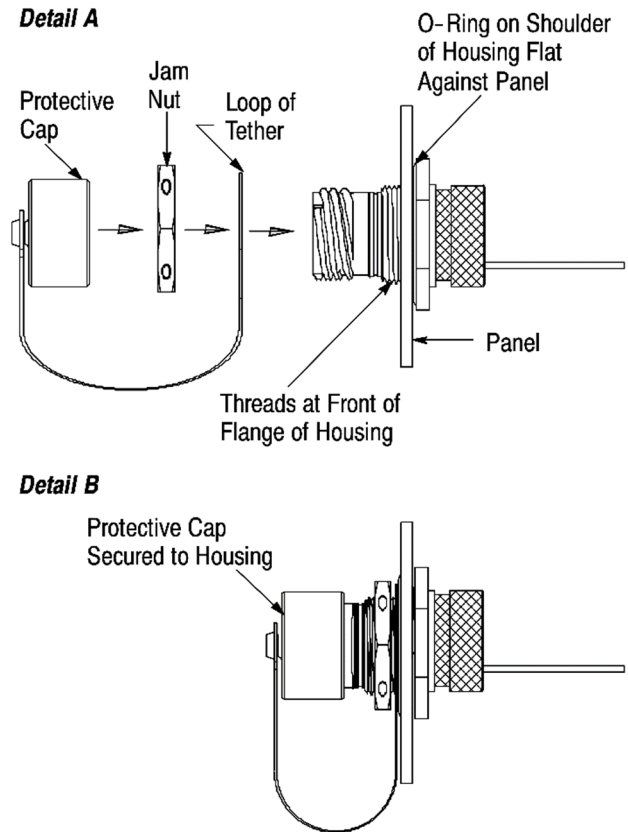

Figure 12
2. Make sure that the flange O-ring is installed in the groove of the housing flange (refer to Figure 1). Then, install the connector through the back of the panel so that the O-ring on the shoulder of the housing is flat against the panel. See Figure 12, Detail A.
3. Slide the loop of the tether of the protective cover over the threads at the front of the flange of the housing. See Figure 12, Detail A.
5. Thread the protective cap onto the housing. Hand-tighten the protective cap. See Figure 12, Detail B.